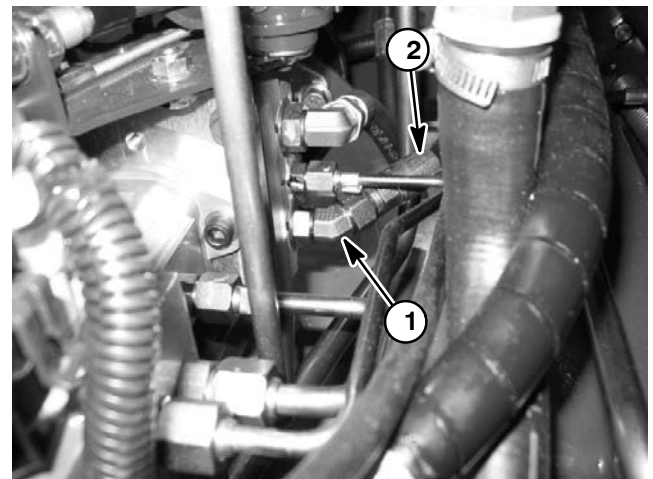

Figure 19
8. Clean hose fitting and disconnect hydraulic hose from the lower 45° fitting on the rear side of the traction pump (Fig. 19).